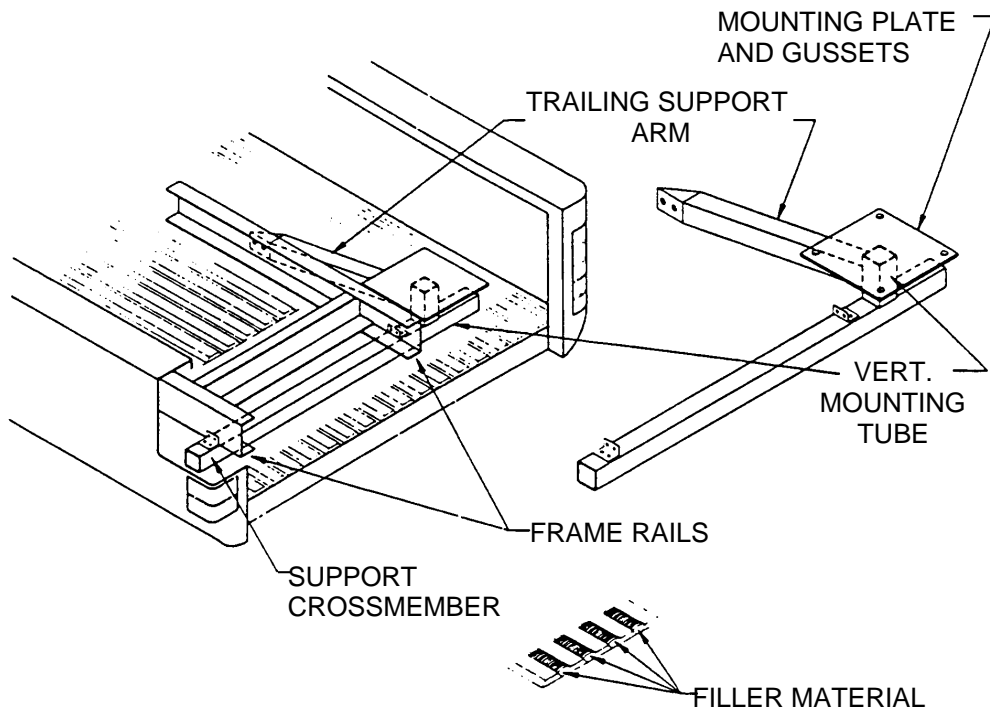

Figure 1 - Installation & Typical Mounting
2. If the floor is made of wood, install a 3/8 in. thick plate approximately six to eight inches larger than the base plate on top of the wooded deck. If the floor is heavy metal and ribbed no metal plate is required under the crane base plate. Install fillers to level the ribbed floor if required. Place the base assembly in position and locate the mounting holes through the truck bed and the backup plate. See Figure 1 for a typical mounting arrangement.